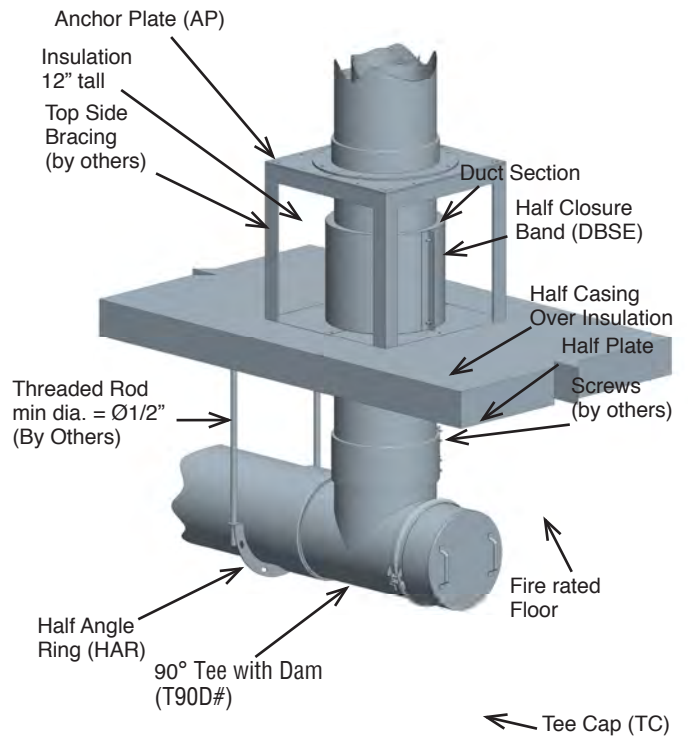
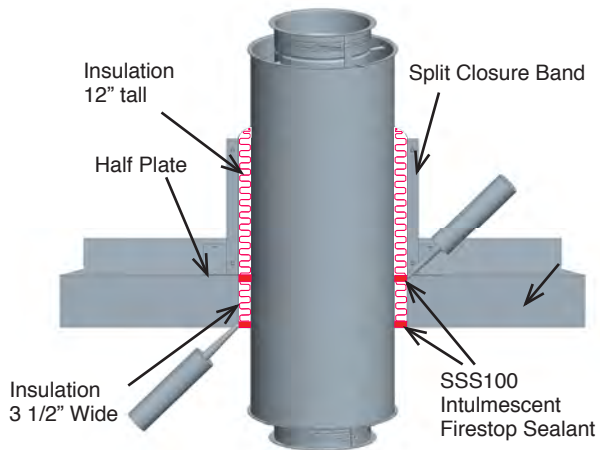

Figure 107: Supports for Duct passing through a fire-rated Floor-Ceiling (DIS3Z only)
Figure 109: Through Penetration Firestop fire-rated Floor Penetration (DIS3Z only)
Supports for ducts that penetrate fire-resistant floors are to be positioned on the top side of the floor. Includes supports as per the height limits in Table 5 and use either an Anchor Plate (AP) or an Anchor Plate with Length (APL) installed above structural framing members as shown in Figure 107. Where a transition from horizontal to vertical occurs beneath a floor/ceiling assembly, support the horizontal portion beneath the floor using Half Angle Rings (HAR) with a minimum 1/2" dia. threaded rod. Install one HAR on the section adjacent to the Tee and include additional Half Angle Rings (or other, appropriate supports) for the horizontal portion of the system in accordance with Table 7.
NOTE:- For Floor Penetration, use one TPFK. See **Figure 109** and **Figure 107**.
4. Apply a minimum 1/2" depth of S-TPFS (SSS100 from SpecSeal), flush with both surfaces of the wall. See Figure 109.